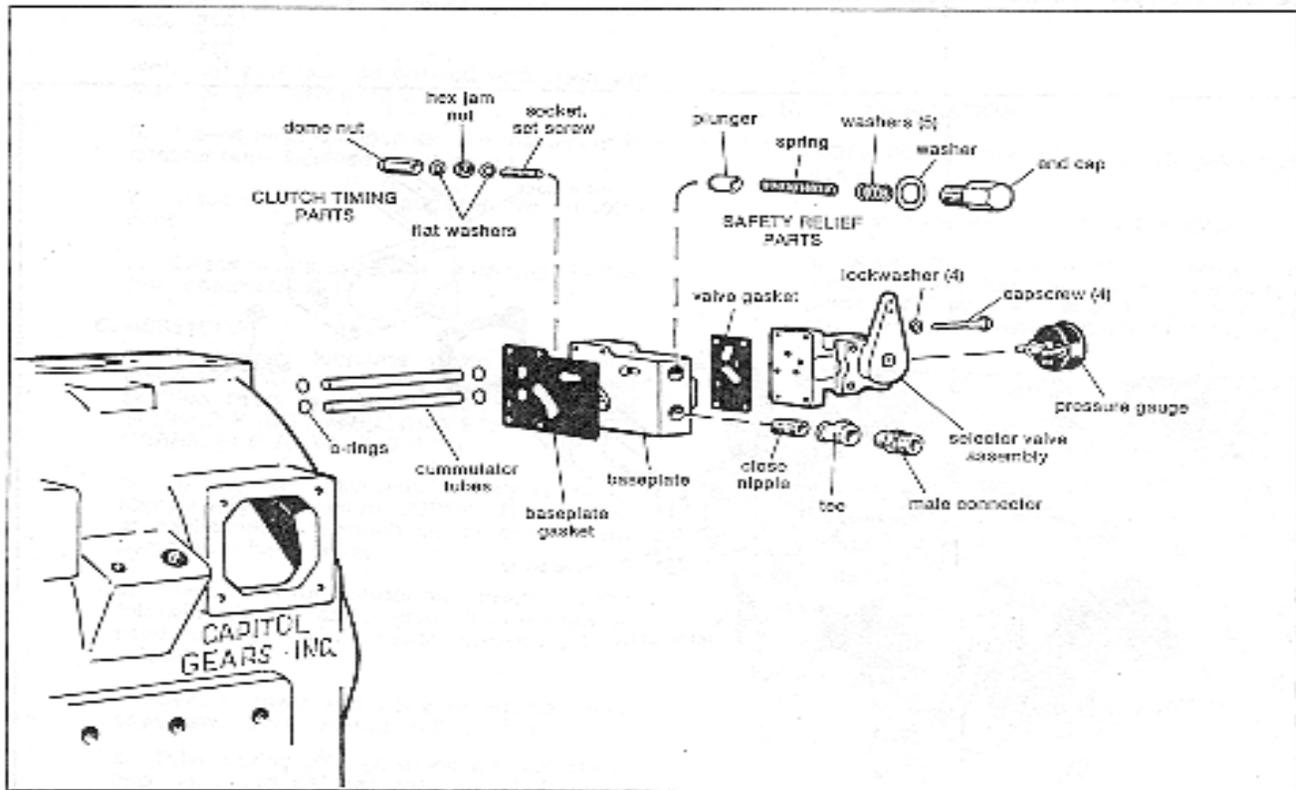

Figure 22. Exploded view of Selector Valve, Baseplate and Related Parts.
10. Mount base plate gasket to correct position. Locate base plate and valve gasket properly (see fig. 22).